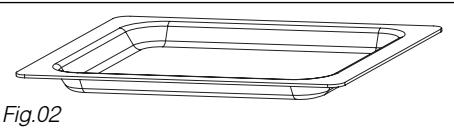

Fig.02
• *The glass drip tray (Fig.02):* It may be used half filled with water for "bain marie" cooking or fan cooking. It may be used as a cooking dish.